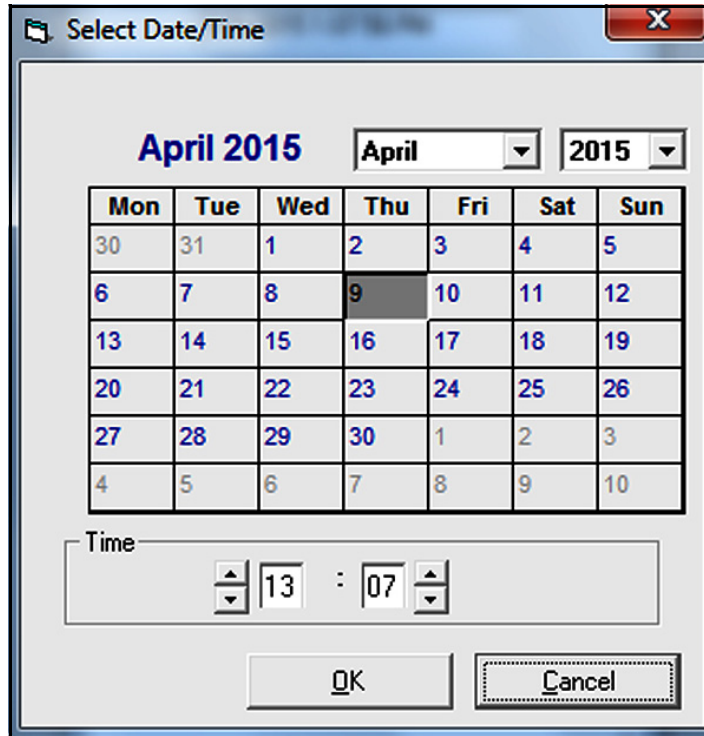

Figure 56: The Date/Time Dialog Box
- Click [Set] button to open the dialog box shown in *Figure 56* below. Set the desired date and time as indicated, and click [OK] button.